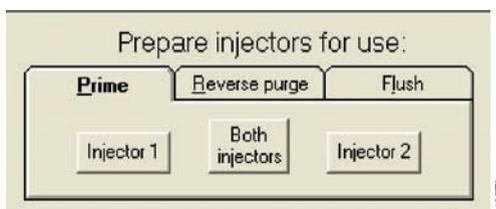

Figure 11. Selecting injectors for priming.
- Click the "Prime" tab in the Main Dialog Box. Select the injectors you wish to prime (see Figure 11).